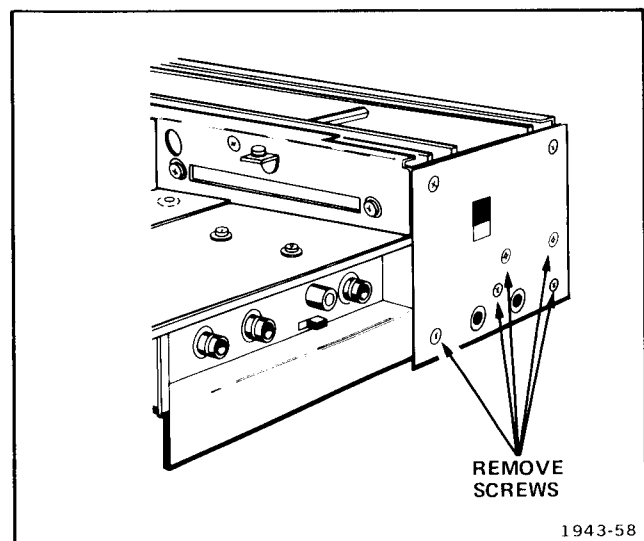

Fig. 4-10. Power supply converter board removal.
3. Remove five screws from the side panel and remove the side panel (see Fig. 4-10).